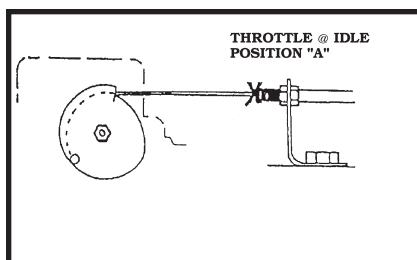

Figure 4
- A. Make a mark on the throttle cable when the throttle is in the idle position. **Figure 4**